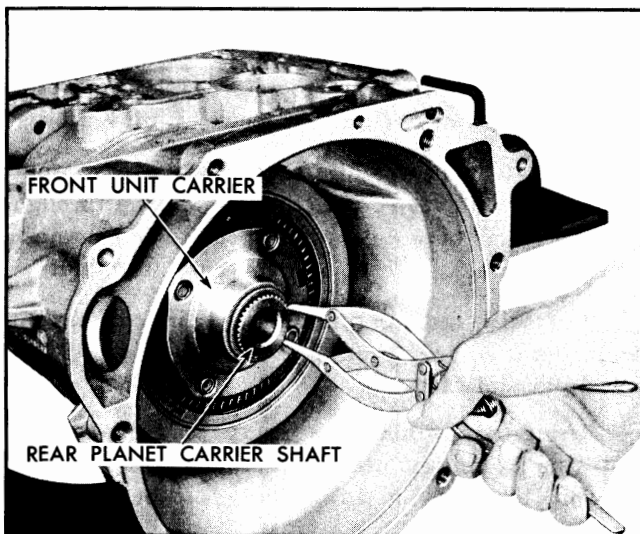

Fig. 7C-122 Installing Front Carrier to Rear Carrier Shaft Snap Ring
10. Install front unit carrier to rear planet carrier shaft snap ring while holding rear carrier forward (Fig. 7C-122).